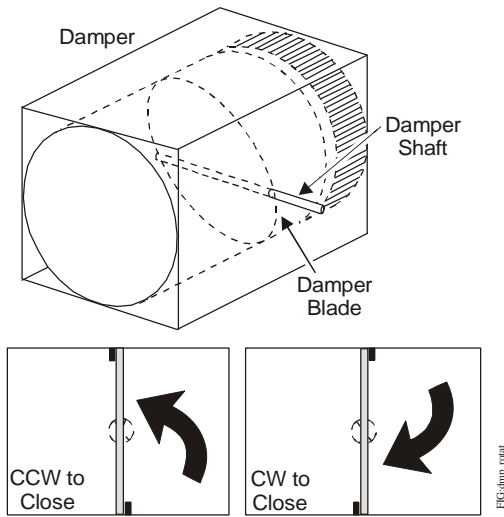

Figure 3: Damper Rotation
2. Grasp the damper shaft firmly with pliers and rotate the damper fully closed, as illustrated in Figure 3.